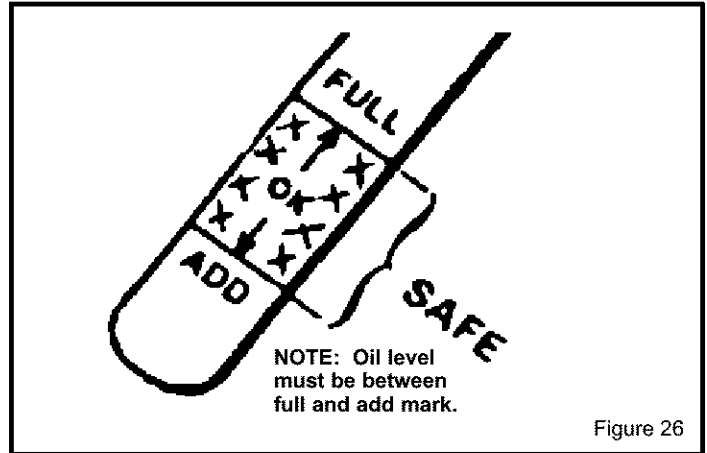

Figure 26
**Check Crankcase Oil Level** before starting engine and after each 5 hours of continuous use (see Figure 26). Add proper motor oil as required.
**Change Oil** every 25 hours of operation or at least once a year, even if the snow blower is not used for twenty-five hours. Use a clean, high quality detergent oil. Fill the crank case to FULL line on dipstick (see Figure 26). Be sure original container is marked: A.P.I. service "SF" or higher. Do not use SAE10W40 oil (as it may not provide proper lubrication). See Chart for oil recommendations.